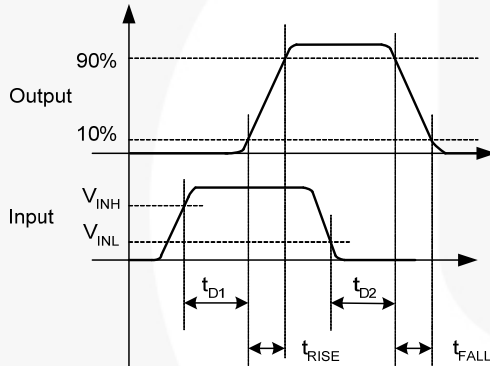
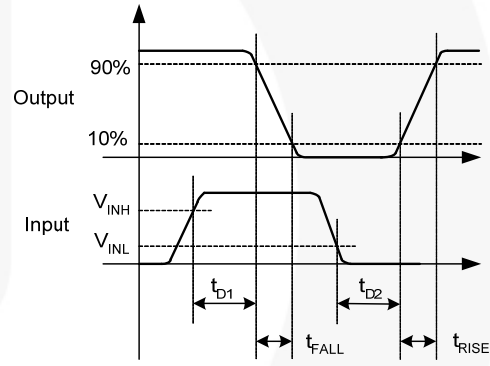

Figure 8. Non-Inverting Timing Diagram
Figure 9. Inverting Timing Diagram
- 10. See *Timing Diagrams of Figure 8 and Figure 9.*